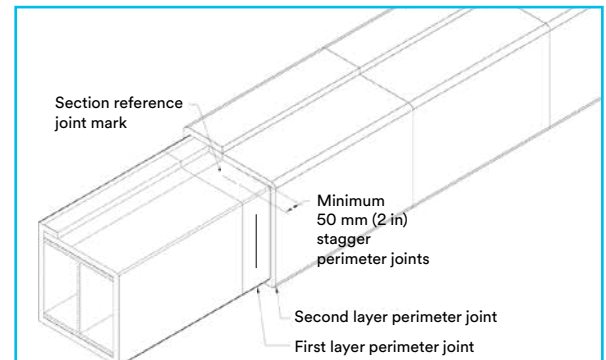

Figure 7
- 6** Measure the perimeter of the first layer and add additional length to accommodate for overlap and corner bending. Stagger the overlap joints by minimum of 50 mm (2 in) away from the overlap joint as required in the previous layer (Figure 7). Repeat steps 2 through 5.